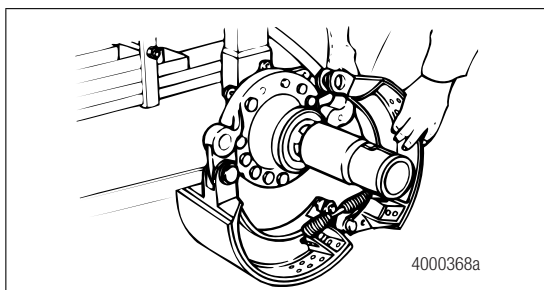

Figure 5.24
7. Install a new shoe return spring onto the brake shoe. Figure 5.24. Place the upper brake shoe into position over the spider. Repeat Steps 4-5.